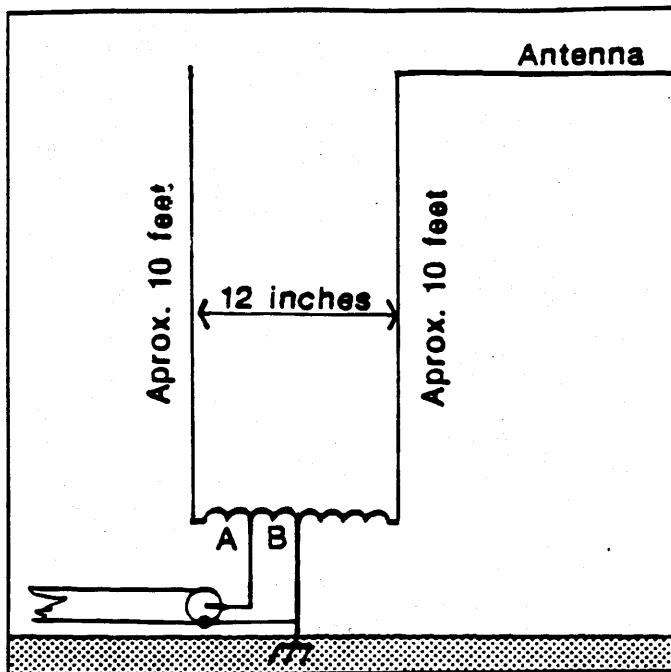

FIGURE 3. Broadband transformer suitable for frequency of interest.
(3) Don't run the wire up over bumps and down through gullies—keep it straight. A pole in a gully should be longer, and one on a bump shorter, keeping the wire straight.
(4) With the wire several feet above the ground and the terminating resistor connected to a ground system, there is bound to be an effectively vertical connection. Instead of having a vertical wire at the end of the antenna, a popular way of solving the dilemma is to taper each end of the wire with a slope of about 10 degrees from antenna level to ground level [1]. The effective vertical component is still present, but at least it is distributed over a distance. If it is not possible to slope the wire, the vertical pickup can be neutralized, as in Figure 3. It is also possible to terminate the antenna with a resistor plus an extra quarter wavelength of wire left open at the far end, thus doing away with the download altogether [2] [15];